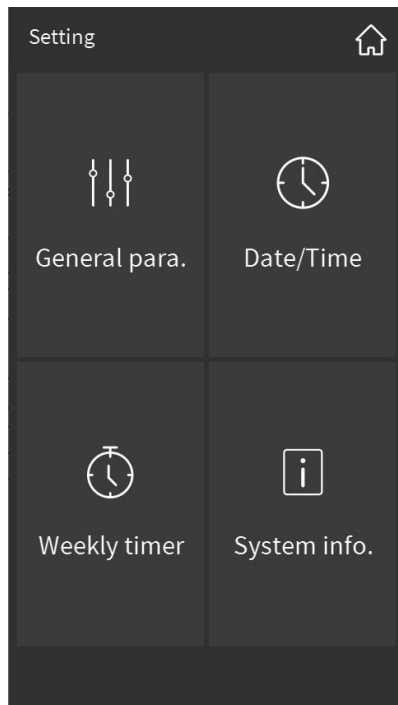
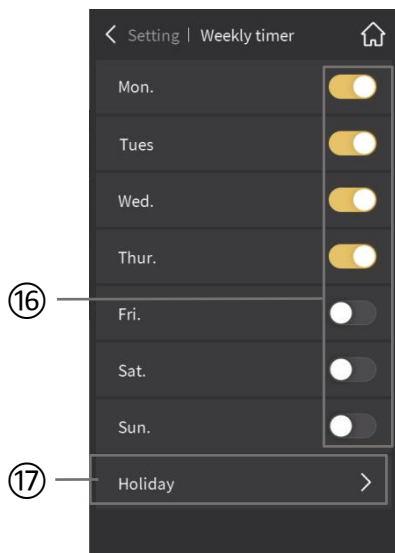

Fig.2.11.1
Fig.2.11.9
Click the setting icon in the upper-right corner of the main page to enter the setting page, as shown in Fig.2.11.1.
⑮ Sliding the number to choose the current date and time;
Click “Date/Time” in Fig.2.11.1 to enter the date/time setting interface as shown in Fig.2.11.7. In this interface, slide a number to select the current date and time. After the completion of the setting, touch the upper-left corner icon② to return to the Setting page.
Click “System Info.” in Fig.2.11.1 to enter the system information display interface as shown in Fig.2.11.8. You can view the system information of the device, including name code, internal code, LCD screen, touch screen, interface language, system platform, system version , KNX version and program version.
Click “Weekly Timer” in Fig.2.11.1 to enter the weekly timer display interface as shown in Fig.2.11.9. The weekly timer needs to be enabled through parameter configuration. Weekly timer before being configured is not operable. In the case of configuration, click “weekly timer” in Fig.2.11.1 to enter the weekly timer setting interface as shown in Fig.2.11.9.